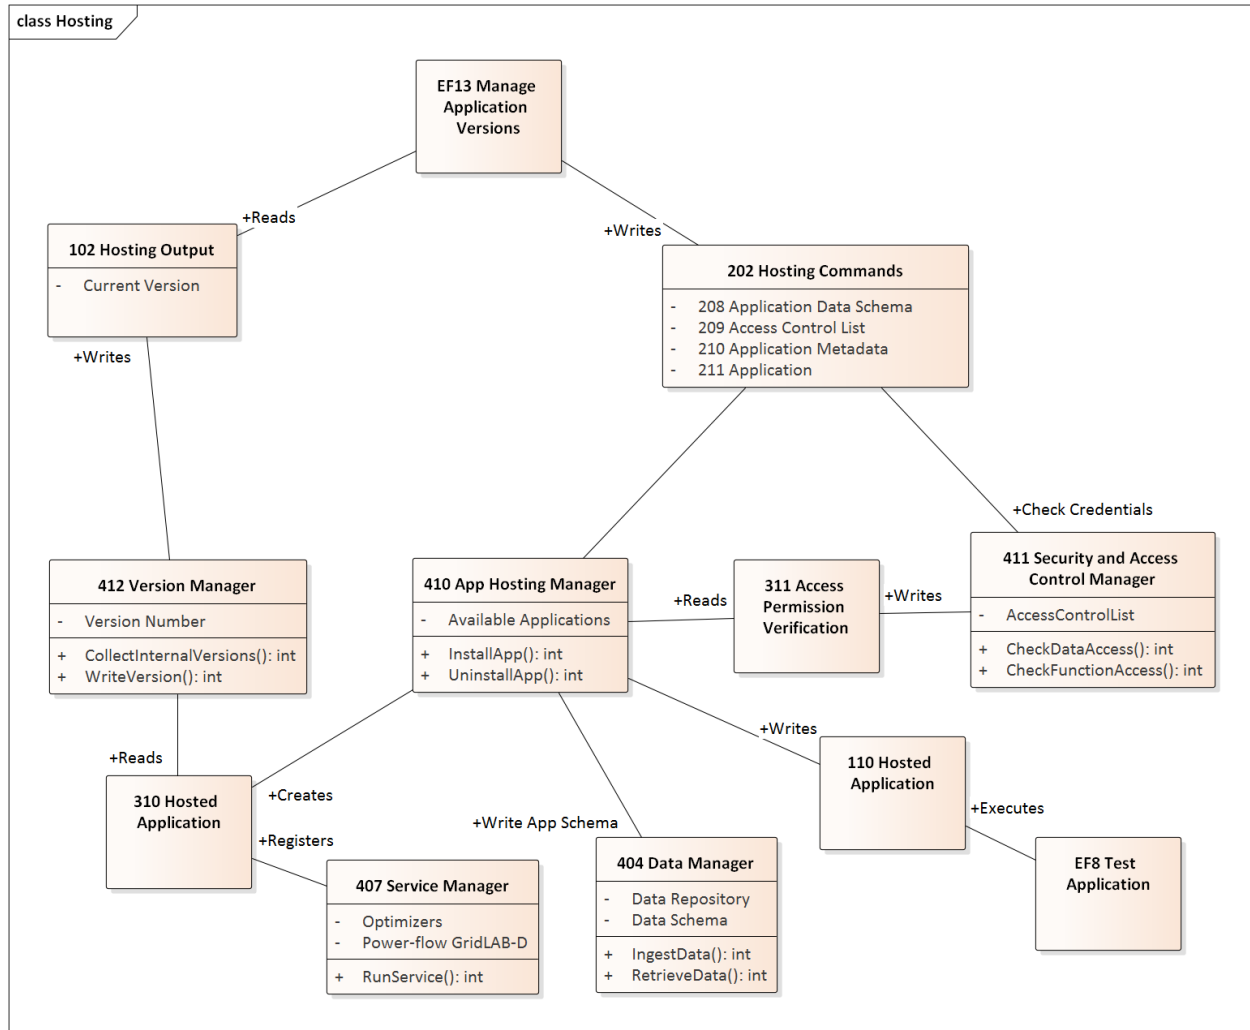

Figure 6: Hosting an application
8. Clock angles for TransformerTankEnd (i.e. move phaseAngleClock from PowerTransformerEnd to TransformerEnd (Figure 6)
10. The ToTransformerEnd association in Figure 6 is one-to-many, so CIMTool did not export it to SQL. Rather than create a join table, a ToTransformerEnd attribute was added to TransformerMeshImpedance. This supports only one-to-one association, which is justified because the one-to-many case is very rare, and GridLAB-D cannot model transformers having the one-to-many association. This restriction may be removed in future versions having a semantic or graph database.
Figure 6 shows the process of registering or updating an application to use with GridAPPS-D. The developer, in the role of EF13, must provide the application itself (211) along with the application data schema (208) and metadata (210). The data schema includes input and output parameters. The metadata includes a user-friendly name, description, calling parameters, command syntax, API functions used, etc. Using this information, 410 Application Hosting Manager will install and register the application, and its data, with 407 Service Manager and 404 Data Manager. After completing these steps, 412 Version Manager will output the current version information via the command interface; the current version includes information about which applications are installed along with the application versions.
Verification for all of the internal Platform Manager components. In Figure 6, the 410 Application Hosting Manager can pass 311 to 404, 407 and 412 as needed. Although not shown earlier, SAC is actually incorporated into all GridAPPS-D processes this way.